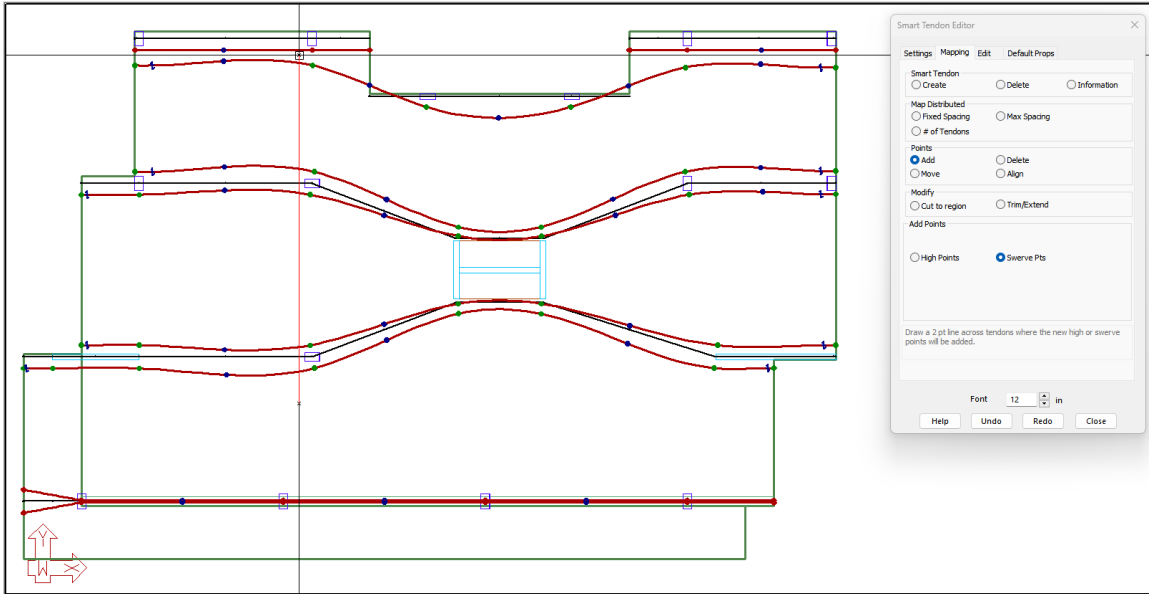

FIGURE 9-62
- We want to straighten out the end spans of the spline tendons, to do so we are going to add swerve points. Draw your construction line to the left of the second column line from the left, through the 6 tendons, as shown in **FIGURE 9-62**.